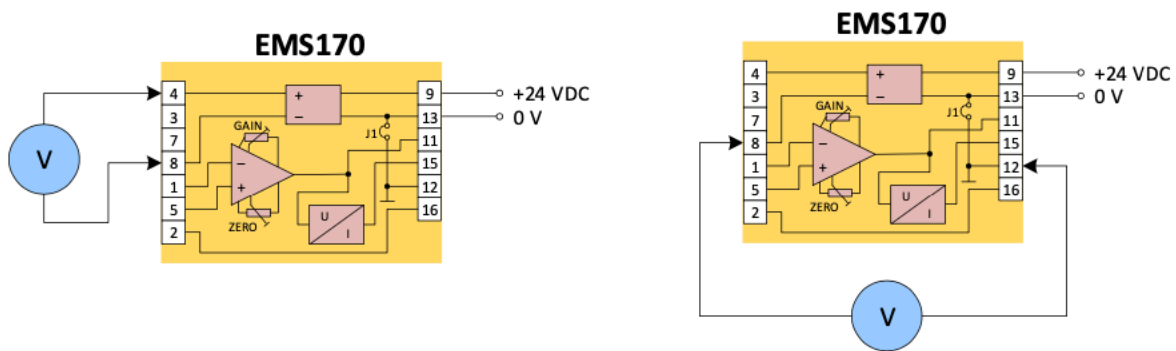

Fig. 9. Measurement of excitation of the sensor
2. **Check sensor power supply 1 (no load).** The excitation of the sensor is measured at terminals 4 and 8, according to the connection in fig. 9. The correct value is 5 V or 10 V (depending on the configuration) with a tolerance of  $\pm 5\text{ mV}$ . If the voltage is not within this range, the signal conditioner is clearly damaged. Caution, terminal 8 is not connected to the ground of the transmitter. The potential of terminal 8 is  $2.5\text{ V} \pm 5\text{ mV}$  relative to terminal 12 (analog ground). It must also be measured.